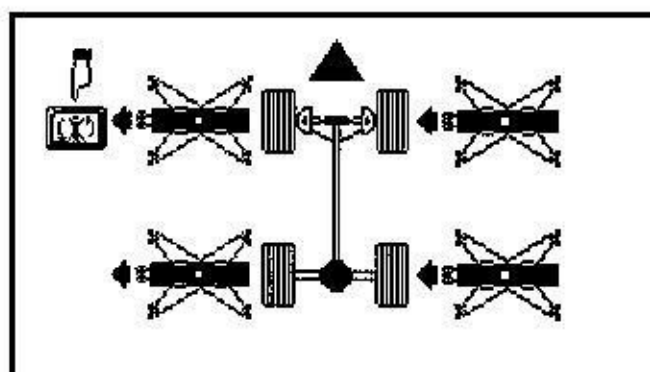

Figure 2-40
4. The screen shown in Figure 2-40 appears.